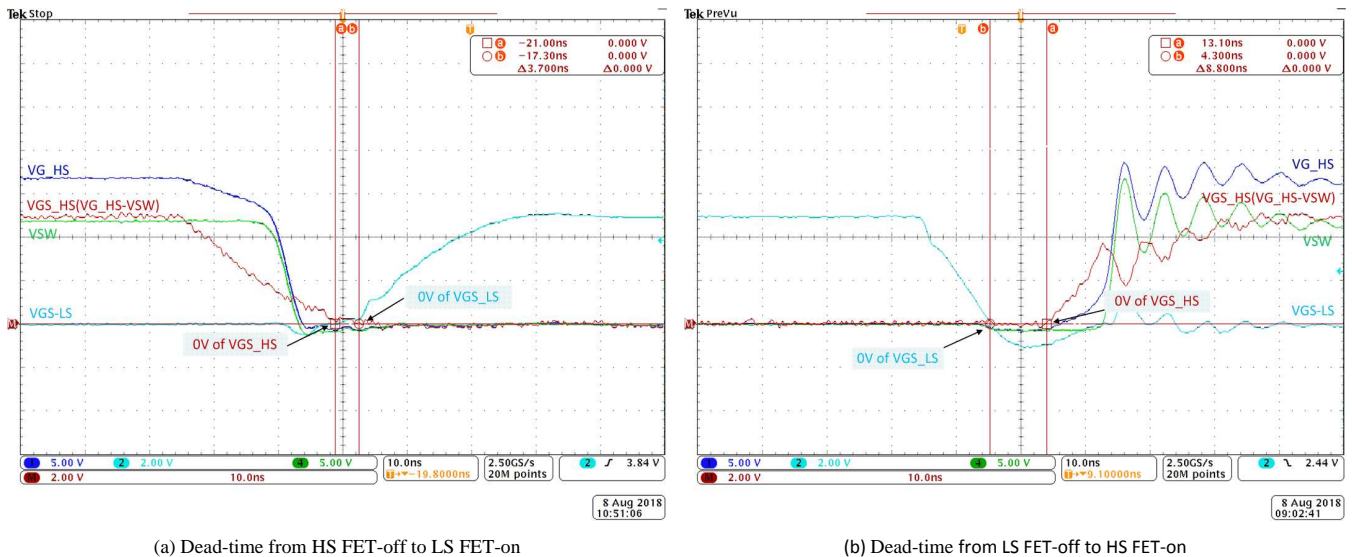

Figure 9. Dead-time Measurement for V_{GS} at 0 V
2. Cursors locate at 0 V of V_{GS} of both HS FET and LS FET, Dead-time from HS FET-off to LS FET-on is 3.7 ns and from LS FET-off to HS FET-on is 8.8 ns. (See Figure 9)